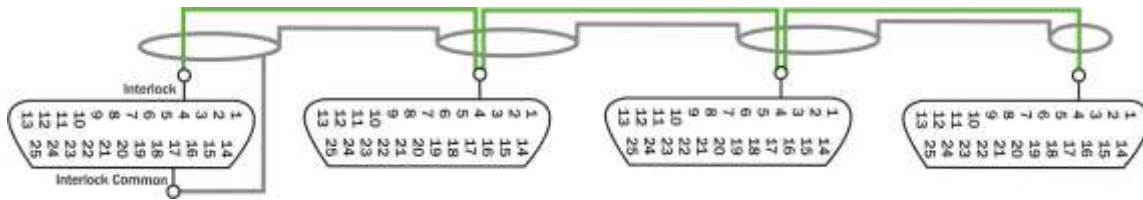

Figure D-1 – DB-25 Cable Wiring for a Four-in-Parallel System
1. Using DB-25 connectors and light-gauge, single-conductor, shielded wire, build a cable as shown in **Figure D-1**.